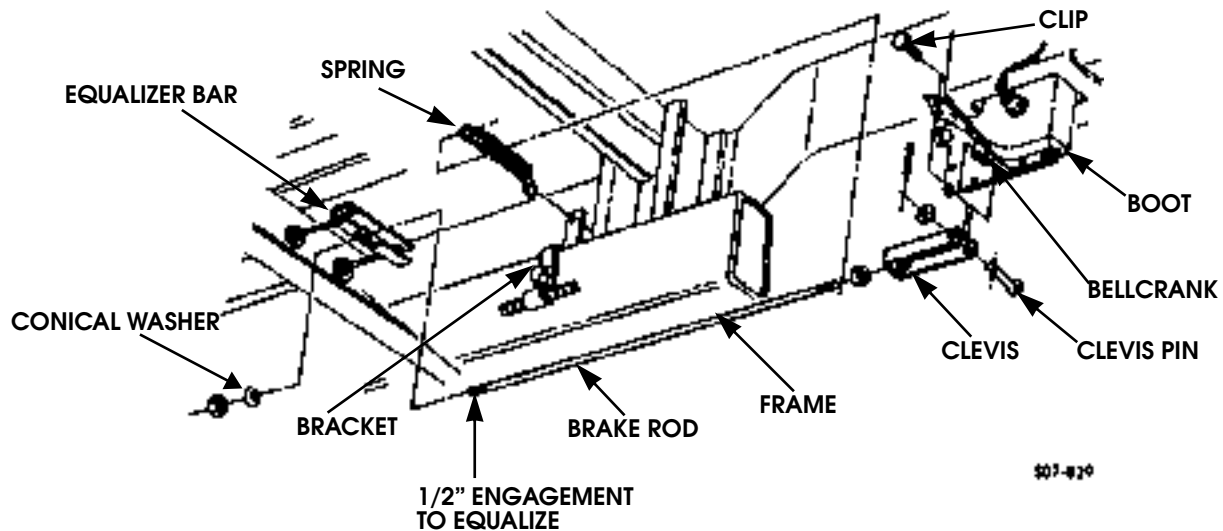

Figure 7-29: Parking Brake Rod Location
3. Remove six clips and spread boot to allow access to cotter pin (Figure 7-29).
5. Disconnect spring from bracket (Figure 7-29).